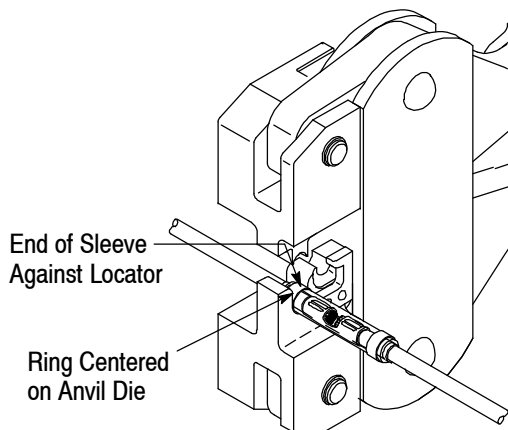

Figure 6
9. Position the splice onto the anvil die so that the color-coded ring on the sleeve is centered in the die and the end of the sleeve rests against the locator. See Figure 6.